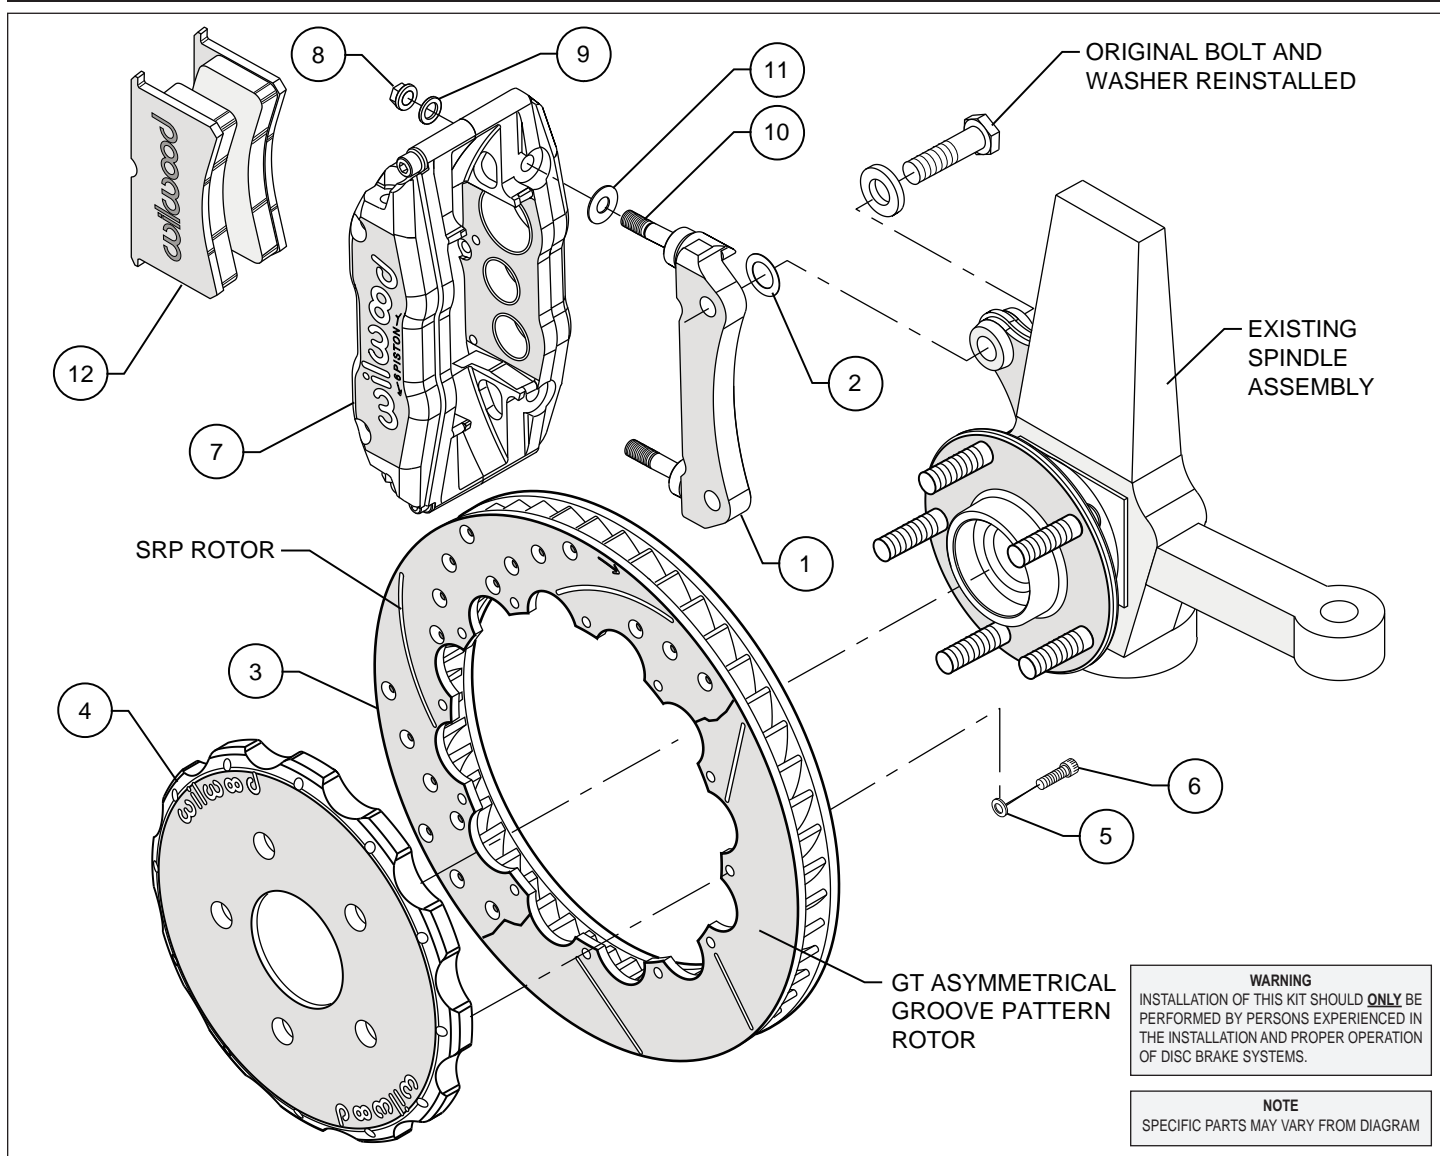
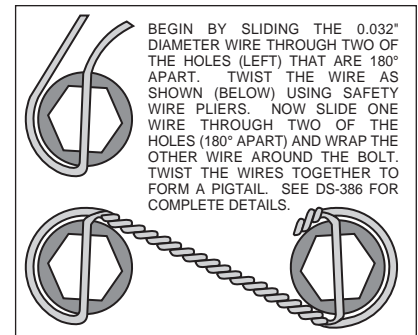

Figure 1. Typical Installation Configuration
Figure 3. Safety Wire Diagram
- Assemble the rotor (3) to the hat (4) with the bolts (6) and washers (5) as indicated in the configuration pictured in Figure 1. Be sure all bolts thread in smoothly and are snug. Then, torque all bolts in an alternating sequence to 85 **in-lbs**. The rotor mounting bolts (6) must be lockwired using standard 0.032 inch diameter stainless steel safety wire as shown in Figure 3. Please refer to Wilwood's data sheet DS-386 (available at www.wilwood.com/pdf/ds386.pdf) for complete safety wire installation instructions.
- **NOTE:** Please reference the caution statement at the beginning of the assembly instructions. Install one shim (11) over each stud (10) on the radial mount bracket (1). Slide the caliper (7) in place over the studs and rotors and install the washer (9) and lock nut (8) to hold the caliper in place. The caliper bleed screws should be pointing up. Snug the lock nuts (8) and check that the rotor (3) is centered in the caliper (7). Add or subtract .035" shims (2) as necessary between the mount bracket and the spindle to center the caliper.
- Remove the caliper center bridge pad retainer bolt, nut, and tube from the caliper. Slide the brake pads (12) into place. They should install easily without interference. Check that the outside radius of the brake pad is aligned with the outside diameter radius of the rotor face. Add or subtract shims (11) between the caliper and mount bracket to gain the proper alignment. Reinstall the center bridge pad retainer tube, bolt, and lock nut. The locknut should be snug without play in the bolt or tube. Be cautious not to over tighten.
- Once all clearances have been checked, remove the wheel, caliper, hat, and rotor from the spindle and hub. Secure the caliper mounting bracket (1) to the spindle using red *Loctite*® 271. Torque the bolts to 65 ft-lbs. Reinstall the hat and rotor assembly and again use several lug nuts to hold it in place. Lubricate caliper mounting studs and nuts with lightweight oil, reinstall the caliper, torque the caliper nuts (8) to 30-35 ft-lbs.